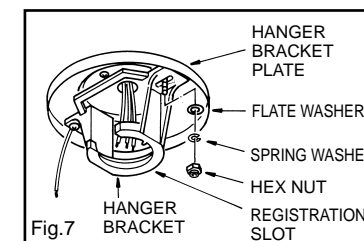

Fig.7
**Step 3.** Secure hanger bracket to hanger bracket plate using the two hex nuts and washers provided, make sure nuts are securely tighten. (Fig. 7)